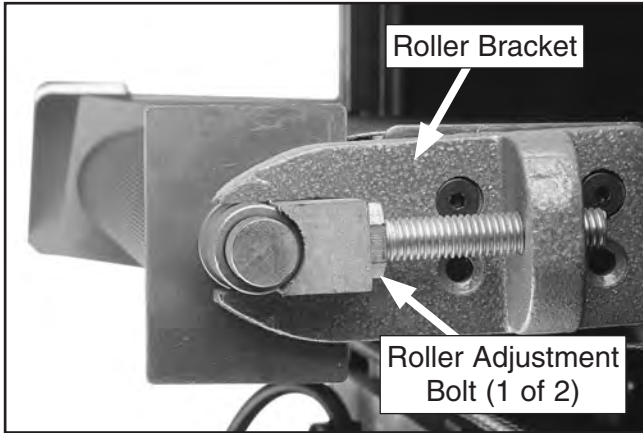

Figure 43. Location of conveyor roller adjustment bolts.
- If belt slips on rollers, rotate both roller adjustment bolts (see **Figure 43**) counterclockwise to increase belt tension.